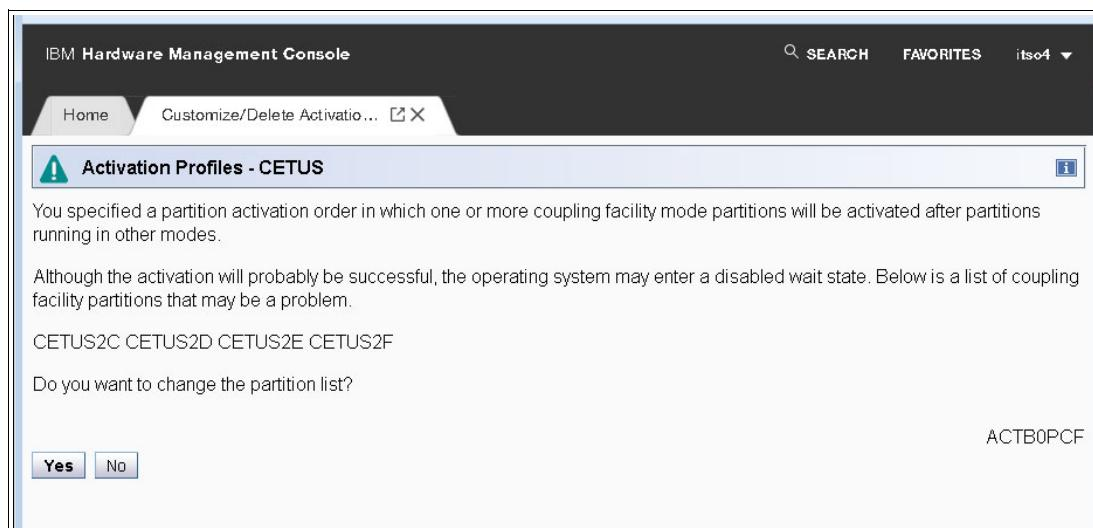

Figure 5-22 Reset and Image profile list: Coupling Facility LPAR verification
3. If you have any Coupling Facility partitions defined, HMC asks if you want to change the partition activation order, as it is preferential but not essential that CF LPARs are activated before z/OS LPARs. Click **Yes** or **No** (Figure 5-22).